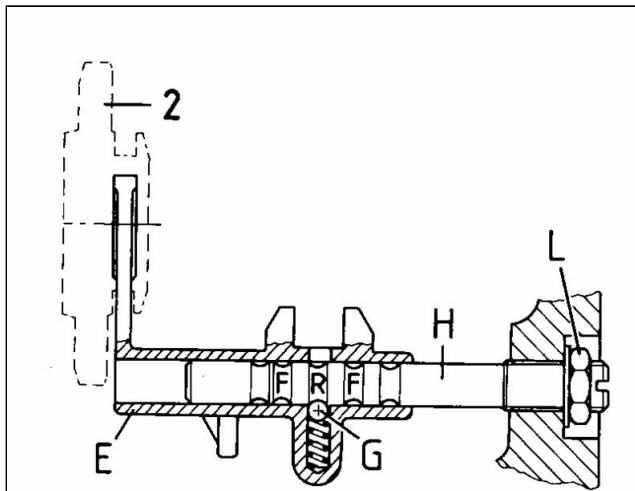

Fig.3
- Position fork **E** (fig. 3) on the rod so that ball **G** is in position **R**